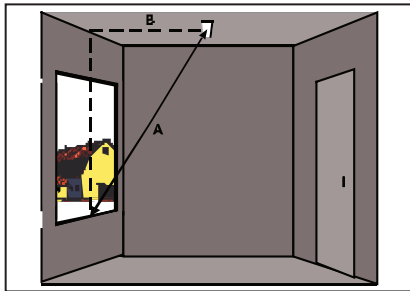

Figure 3.5: Ceiling mounting without the magnetic contact
- Make sure the detector is no further than 10 ft (3 m) from any corner of the glass (line A in Figure 3.5).
- The detector should be within  $\pm 30^\circ$  of the center of the glass to be protected (line B in Figure 3.5).